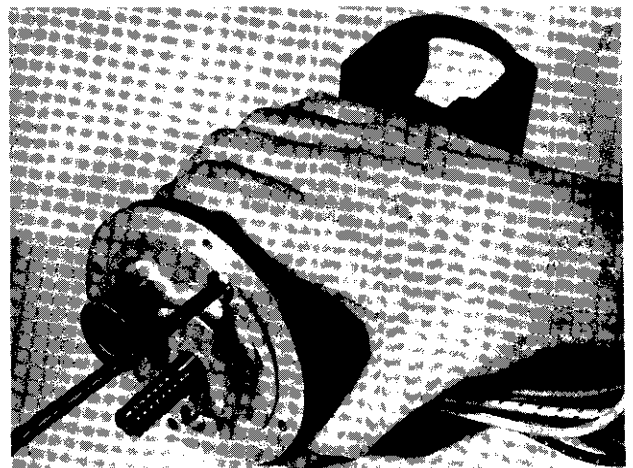

FIG. 14 - Unscrewing Motor Housing Screws
- (c) Unscrew the two motor housing screws as shown in Figure 14.